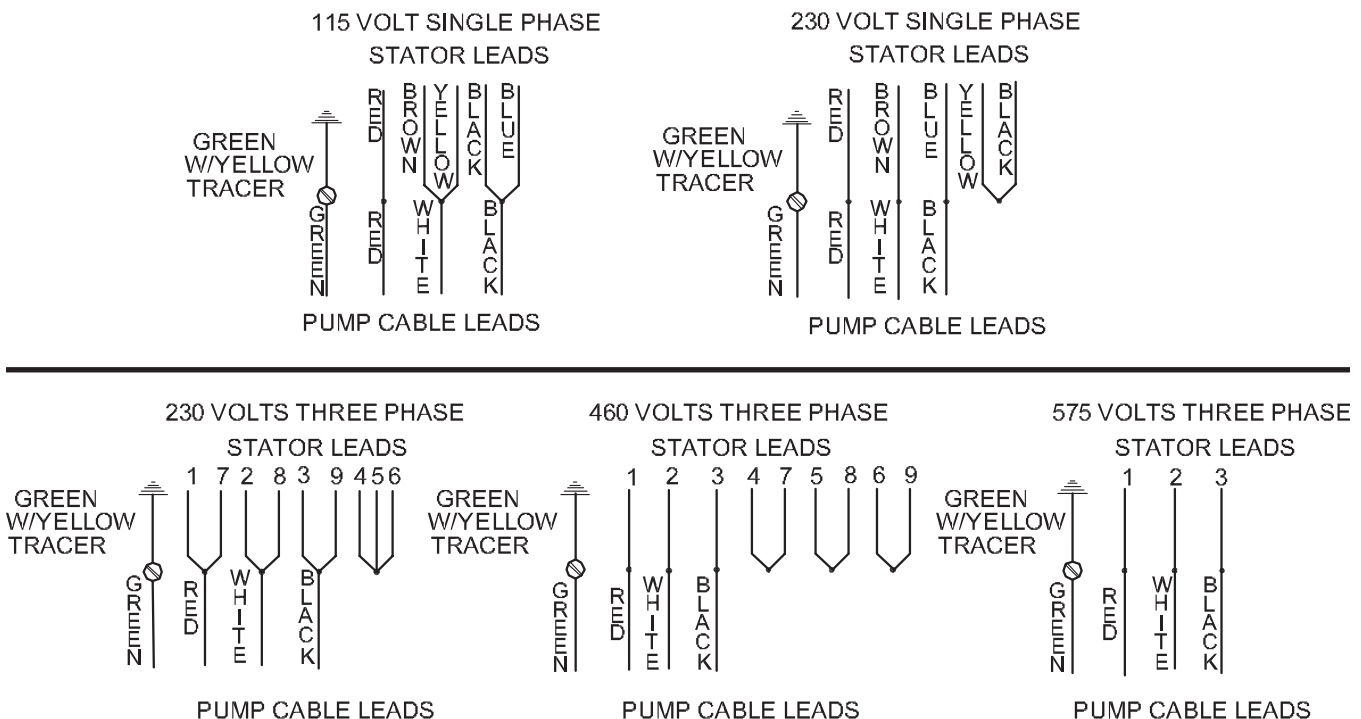

FIGURE 11
To assemble discharge case (22) to stator/frame assembly, set the assembly in the upright position. Make sure all stator leads are properly identified (See Figure 11). Each lead should be color coded or numbered for identification. Apply a grease to o-rings (19) and (20) and place on discharge case (22). Set the discharge case (22) onto the stator/frame assembly with the terminal cavity directly over the stator leads and insert the leads through the cavity opening, being careful not to lose the lead identification numbers or damage the o-rings. Be sure that load spring (8) is sitting properly in bearing bore of discharge case. Line up the holes and insert capscrews (31) with flatwashers (30) into holes and torque to 75 In Lbs.
If cord is being replaced, feed approximately 13" of cord through strain relief bushing (2f). Slide cable grip nut (2b), cord grip washer (2c), bushing (2d) and cord gland (2e) and gasket (25) onto cord (2a), and expose approximately 3" of wire at the end of the cord. Attach ground screw (33) with ground wire (Green) to the inside of terminal cavity in discharge case (22). Make wire connections in accordance to Figure 11 using connectors (29) and (34) and then tape each connector individually with electrical tape. Fold and insert the connectors and wires into the terminal box cavity. Apply Permatex® No. 2 to the surfaces of the discharge case (22) and cable gland (2e). Place gasket (25) on the discharge case and then place cable gland (2e) onto gasket and discharge case. Insert capscrews (28) and tighten to 5 Ft. Lbs.